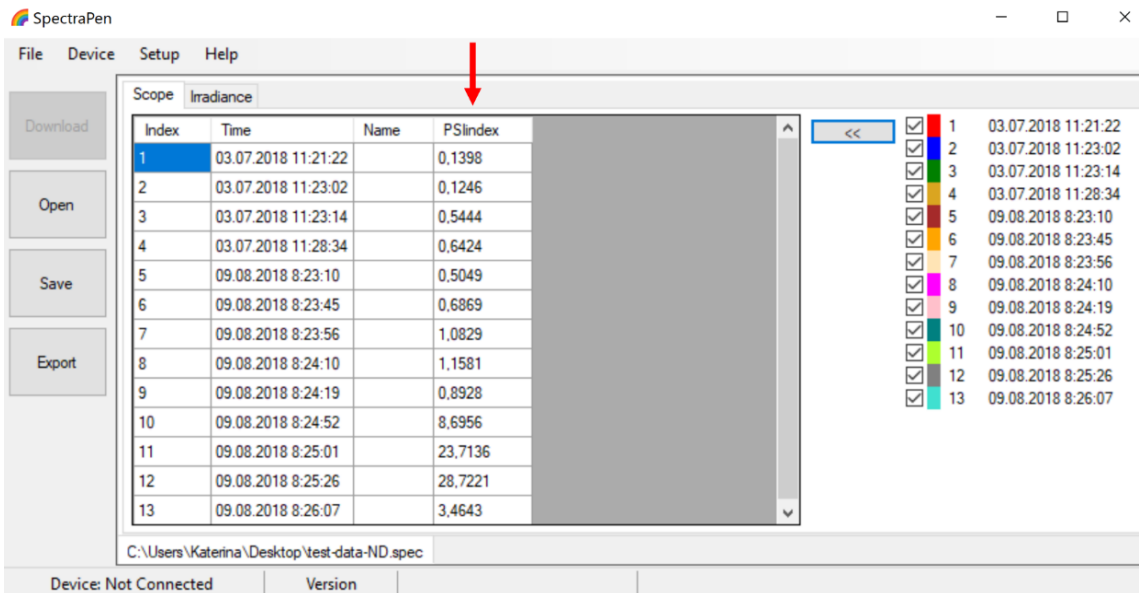

Fig. 38 New index.
5. The new index appears in the selected bookmark in the data (Fig. 38).